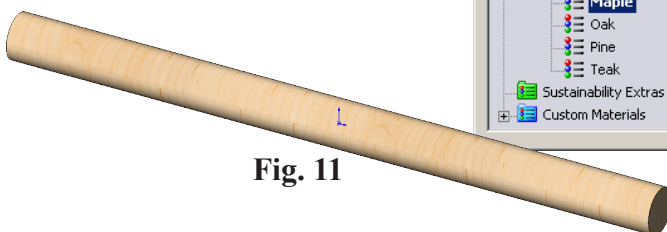

**Fig. 9**
Step 1. **Right click** **Material**  in the Feature Manager and click **Edit Material** , **Fig. 9**.